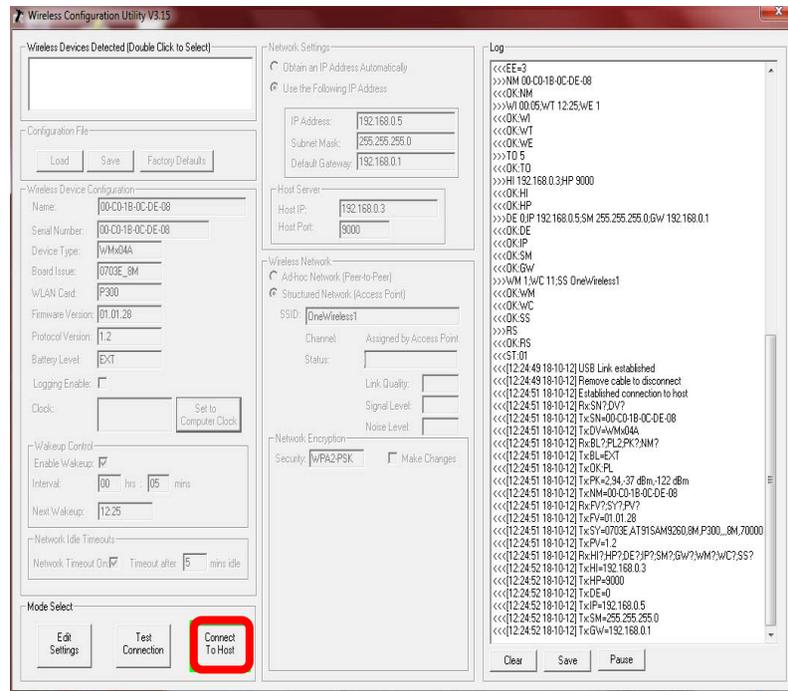

Figure 13. Connect to Host
- The settings are now complete. Click the **Connect to Host** button. [Figure 13]